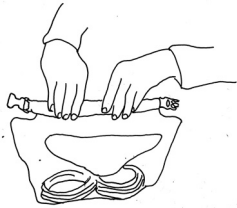

Figure 3: Roll the top edge of the Ice Bag to ensure a secure seal.
8. While holding the bag closed, roll the top edge of the bag over a couple times to ensure a sealed closure (Fig. 3).